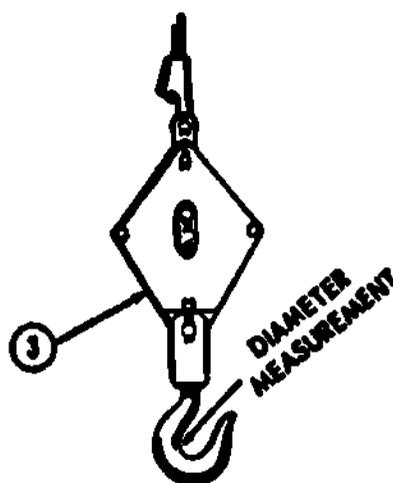

Fig 2-2. Hook block.
The hook block (fig 2-2) is the standard crane attachment and is used to perform a wide variety of tasks. Examples are handling steel and other construction material at construction sites and handling cargo at various locations (warehouses, factories, docks, etc.). A crane with a hook block attachment can be used to lift anything weighing up to the capacity rating of the crane.
Hook block employment. Before making any lift, you should consult the tables furnished with the crane concerning the handling of specific weight of materials. Remember that you must always include the weight of the hook block when determining the overall weight being lifted. To ensure that the hook block used has the capability to handle the load, you must determine the approximate safe working capacity (SWC) of the hook block. Use the following rule of thumb: SWC in tons is equal to the square of the diameter of the hook or D^2 . The diameter (D) measurement is taken where the inside of the hook starts its bend (fig 2-2). Thus the safe working capacity of a hook with a diameter of 3 inches is as follows: $SWC = D^2 = (3)(3) = 9$ tons.